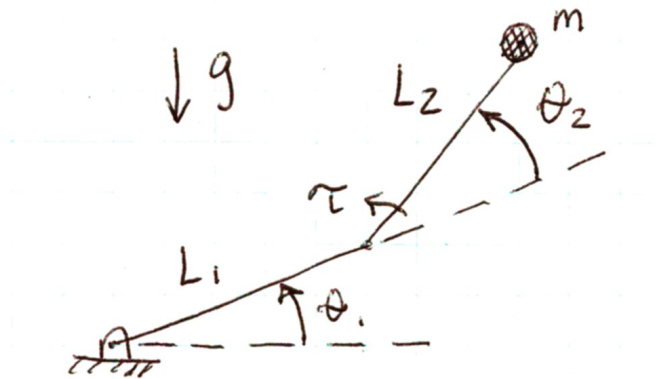

Figure 1: Double-link pendulum with point mass and torque (τ) at elbow.
- a) For the system shown in Figure 1, write expressions for T^* (the kinetic energy), for V (the potential energy) and for the Lagrangian: $\mathcal{L} = T^* - V$. (Hint: write expressions for the position of the mass [e.g., for x_m and y_m] and differentiate to find its velocity.)